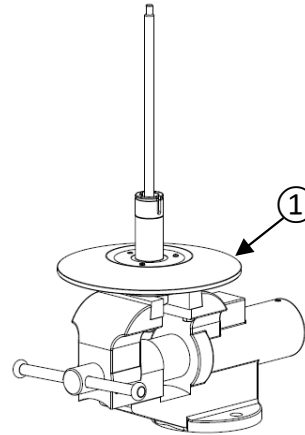

Figure 28
- Install the fixed sheave ① on the disassembly tool (figure 28).